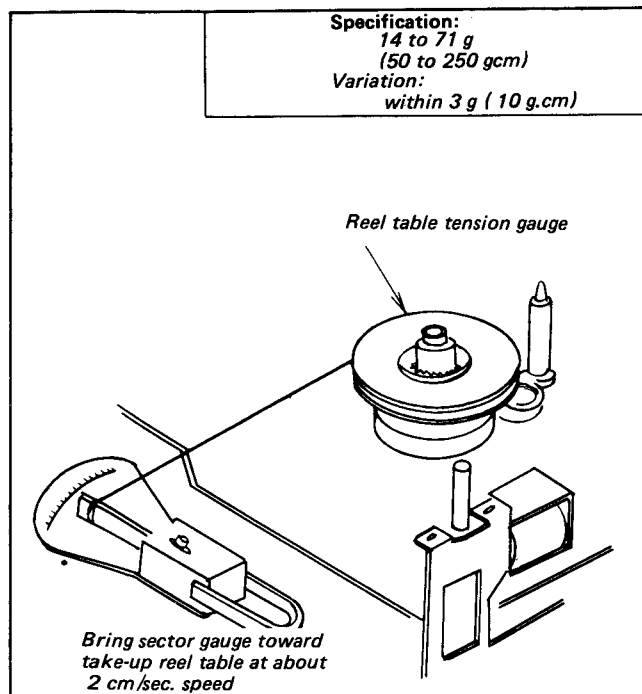

Fig. 3-18. Check of Cassette Eject Torque
- (1) Disconnect the belt from the threading motor SA.
- (2) Attach the reel table tension gauge as shown in Fig. 3-18.
- (3) Pull out the string of the gauge about 30 cm (12 inches) and hook the sector type gauge (50 g fullscale) on the end of the string.
- (4) Set up the EJECT mode.
- (5) As shown in Fig. 3-18, bring the sector type gauge speed of approximately 2 cm/sec. and make sure that the reading of the gauge is within a range of 300 to 400 g. When necessary, adjust the torque using the torque adjusting volume (VR-4) on the SYSCON printed wiring board.